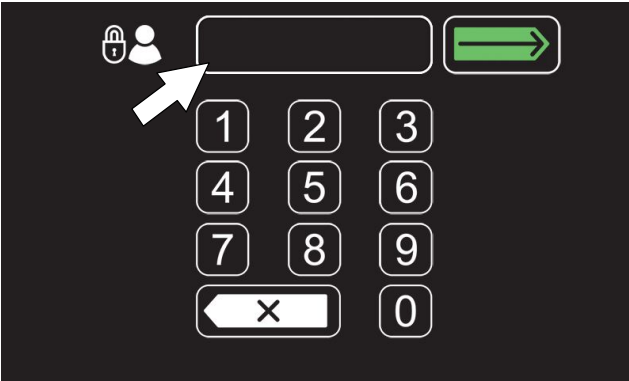

FIG. 180
- 6. Now at machine start up, the login screen will display (Figure 180). The user will need to enter their assigned login code to operator machine.